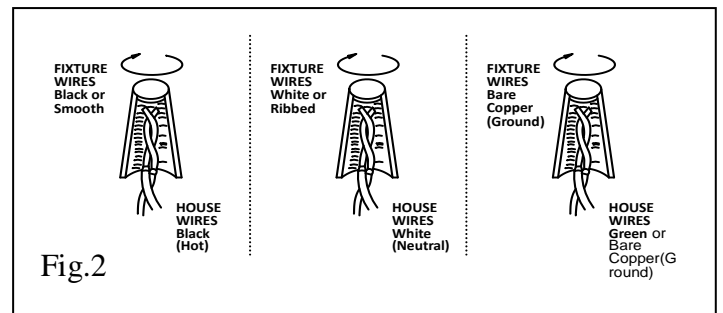

Fig.2
CONNECTING THE WIRES (FIG. 2)
4. At this point, connect the electrical wires as shown in Fig. 2, making sure that all wire connectors are secured. If your outlet has a ground wire (green or bare copper), connect the fixtures ground wire to it. Otherwise, connect the fixture ground wire directly to the mounting plate (A) using the green screw provided. After wires are connected, tuck them carefully inside the junction box.
5. Place the fixture's back plate (C) over the mounting back plate (A) and secure with screws (D/SIZE: 'M4*8MM).
4. At this point, connect the electrical wire as shown in Fig. 2, making sure that all wire connectors are secured. If your outlet has a ground wire (green or bare copper), connect the fixtures ground wire to it. Otherwise, connect the fixture ground wire directly to the back plate (A) using the green screw provided. After wires are connected, tuck them carefully inside the junction box.
6. Place the fixture's back plate(C) over the mounting back plate and secure it with screws (D).